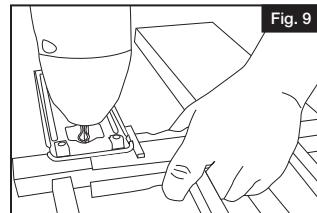

Fig. 9
- b. Cut at your mark with a jig saw or portable band saw. Repeat for the remaining 3 ends (Fig. 9).